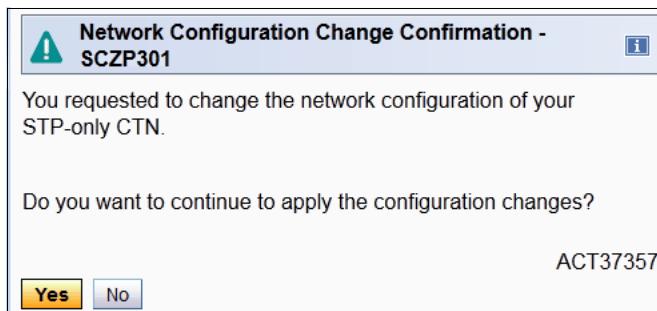

Figure 6-67 Network Configuration Change Confirmation
- The Network Configuration Change Confirmation message ACT37357 displays (Figure 6-67). Click **Yes** to confirm.